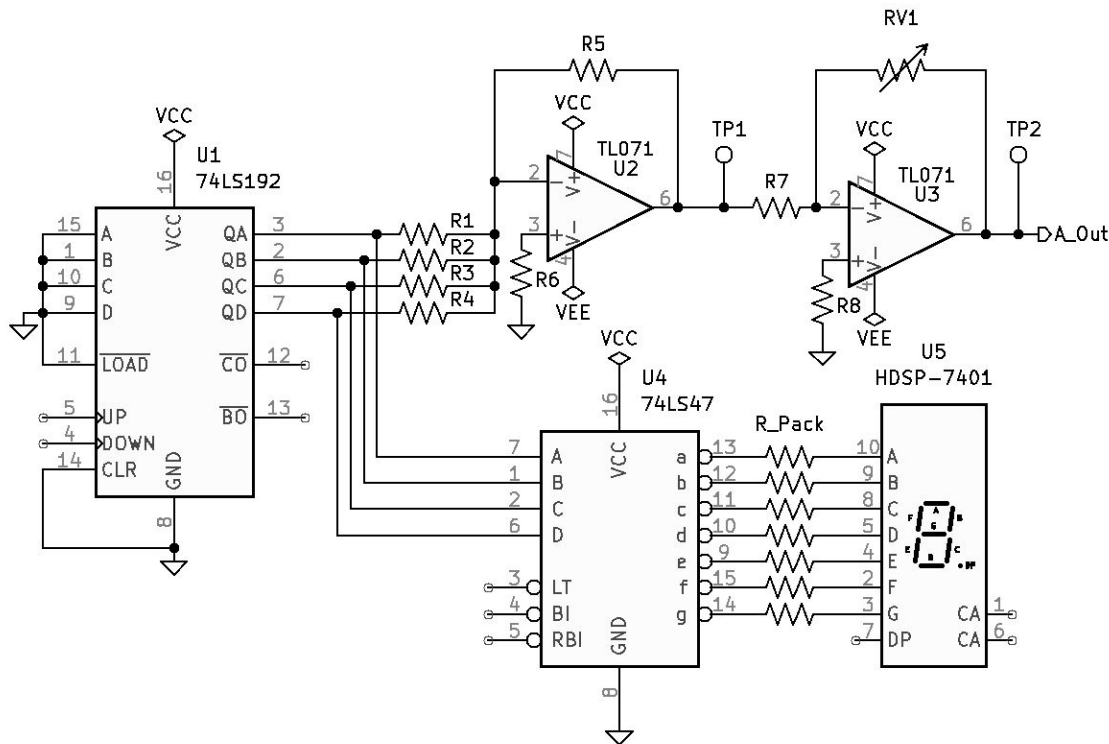

Figure 8.1: DAC Engineering Department Prototype Circuit.
1. The Engineering Department has sent you a DAC prototype circuit that they are working on. The DAC circuit is not working as expected. The Engineering Department needs you to analyze the circuit and make sure all the connections are correct. See Figure 8.1 *DAC Engineering Department Prototype Circuit* on page 65.